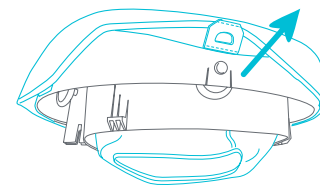

Fig. 13a
- 13 •** To remove the seat fabric for maintenance, pull out all the plates from the tab on the seat base (Fig. 13a).